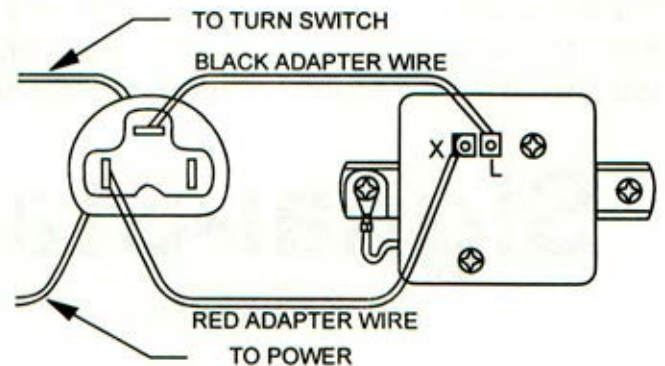

FIGURE 2
1. On existing installations using two prong flashers mounted in socket connectors and using one or two pilot lamp indicators, use adaptor wires provided to make connections between flasher and socket. Connect the terminal marked "X" with the female end of the red adaptor wire. The male end of the red adaptor wire connects to the positive side of the vehicle power source. (Refer to Figure 2) Connect the terminal marked "L" with the smaller male terminal on the black adaptor wire. The larger male terminal connects to the socket receptacle that in turn connects to the turn signal switch.